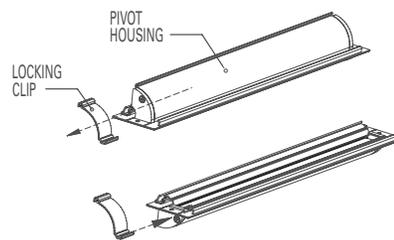

FIGURE 6
6. If the fixture is to be wall mounted, first, loosen the set screw on the back of the pivot housing. Then remove the locking clip by sliding it to the end of the pivot housing (See Figure 6). Rotate the pivot housing 90 degrees, and then replace the locking clip. Tighten the set screw.